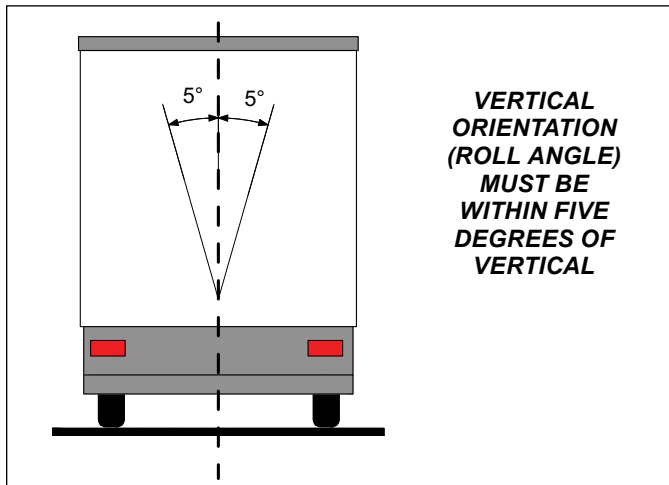

FIGURE 16 - INSTALLATION ON TRAILER (VERTICAL)
1. The TABS-6 Adv MC module shall be installed with the following considerations (see Figures 16 through 18):